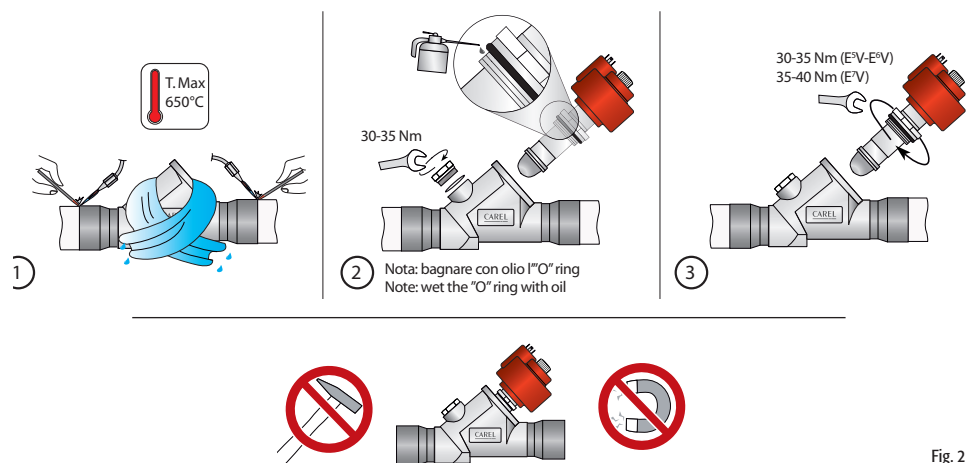

Fig. 2
Le valvole E⁵V, E⁶V, E⁷V devono essere saldate al circuito mediante brasatura dei raccordi in rame ai tubi di uscita condensatore (IN) e di ingresso evaporatore (OUT). Seguire la successione indicata in Fig. 2 procedendo in questo modo:
The E⁵V, E⁶V, E⁷V valves must be joined to the circuit by braze welding the copper fittings to the condenser outlet (IN) and evaporator inlet pipes (OUT). Proceed as indicated in Fig. 2.
6. Make sure that the red stator is fully inserted on the cartridge with the black nut screwed on tightly until deforming the rubber ring on the stator (tightening torque 0.8 Nm). (Fig. 2 D);